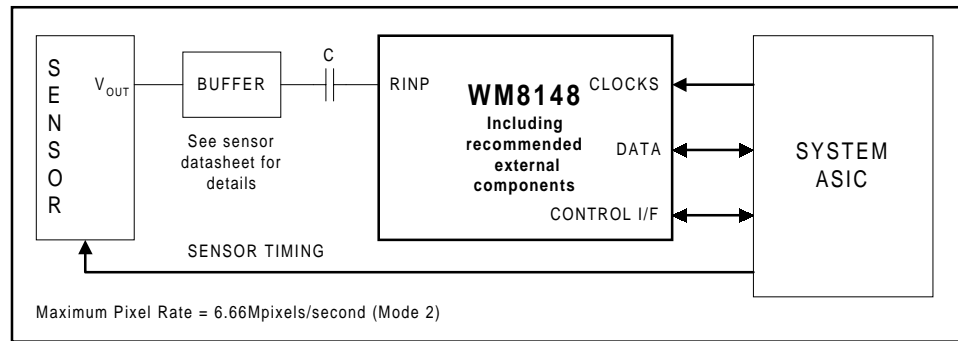

Figure 45 Block Diagram of Monochrome CCD Application
**Table 10 Typical Control Register Settings for Figure 45